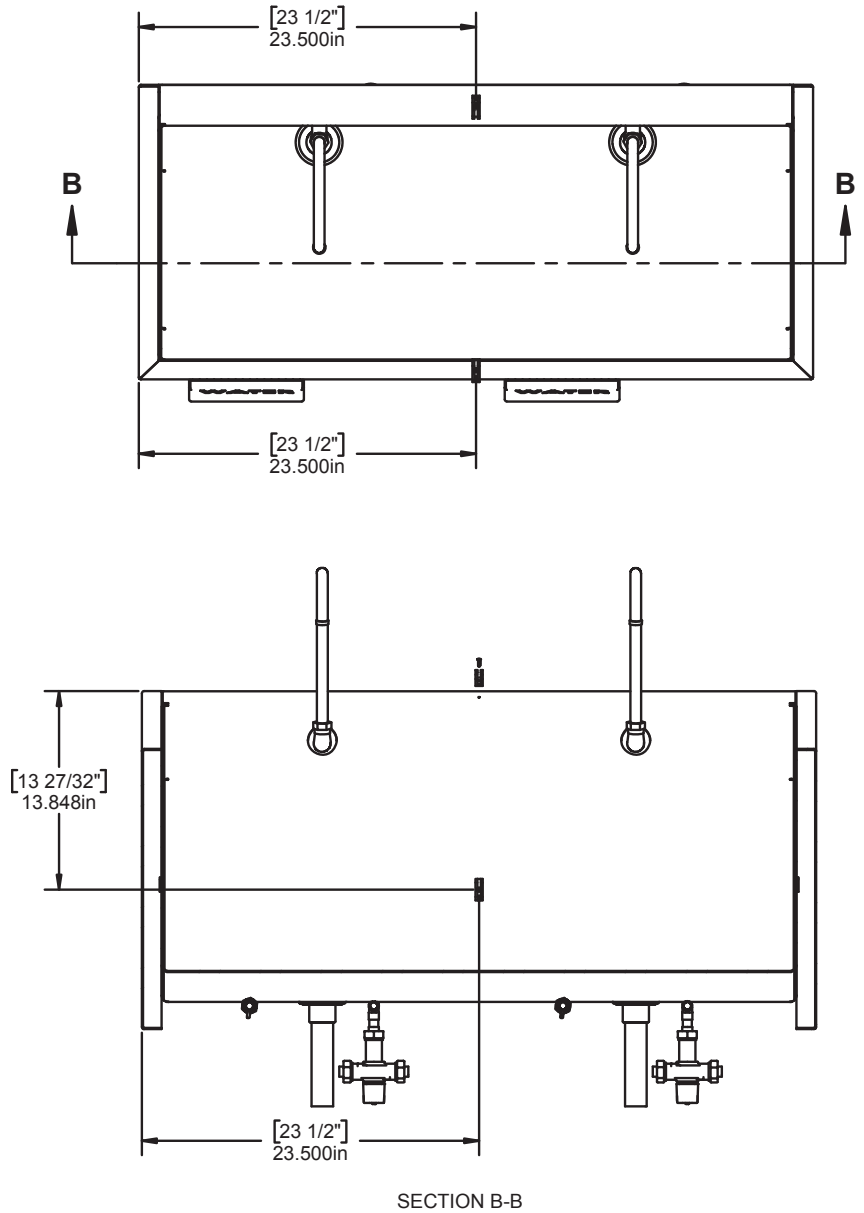
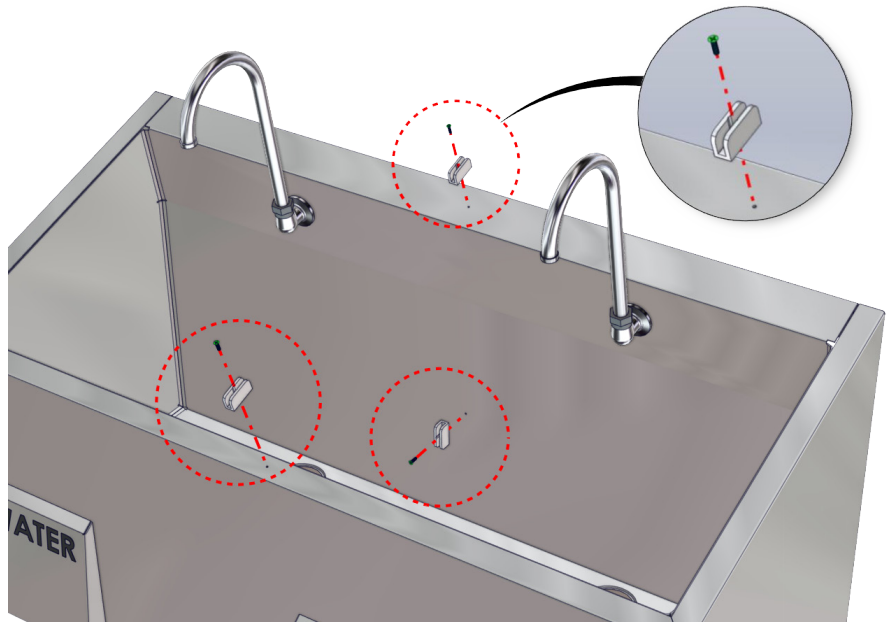

Fig. 2: Drill hole locations
Fig. 3: Drill tap holes - 3 places - screw in brackets
1. Review the hole drill dimensions in Fig. 2 for installing the divider brackets.
2. Drill ,106 holes and tap 6-32 in 3 places (Fig. 3). The 3 holes should align with each other according to the dimension drawing in Fig. 2.
3. Center the holes of the brackets on the tapped holes. Screw the brackets into place with the provided screws (Fig. 3).